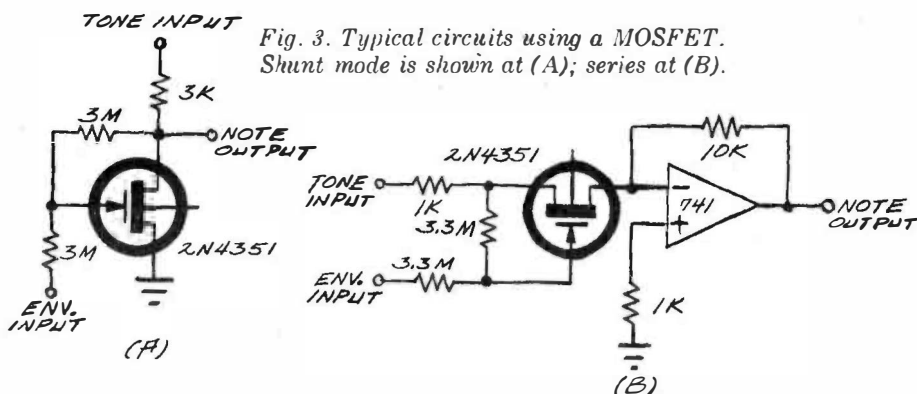

Fig. 3. Typical circuits using a MOSFET. Shunt mode is shown at (A); series at (B).
Fig. 3. In basic differential amplifier (A), envelope causes thump in the output. An additional amplifier can be added (B) to eliminate thump. Second stage can be an ordinary 741 operational amplifier.
Shown in Fig. 3 are typical circuits in which the 2N4351 MOSFET is used in the shunt (A) and series (B) modes. If the substrate lead is permitted to float and the two-resistor feedback network is used exactly as shown, the circuits can be operated with up to 10 volts of peak-to-peak audio signal.
The only catch to the above is that ordinary CMOS hex inverters contain input-protection diodes that make this essentially impossible. But the new RCA CD4049 or Motorola MC14049 IC's eliminate the problem. The circuit for using these new IC's is shown in Fig. 4. It is simply the circuit shown in Fig. 3 repeated 12 times for a full octave's worth of keying (12 notes), accomplished with three low-cost integrated circuits.